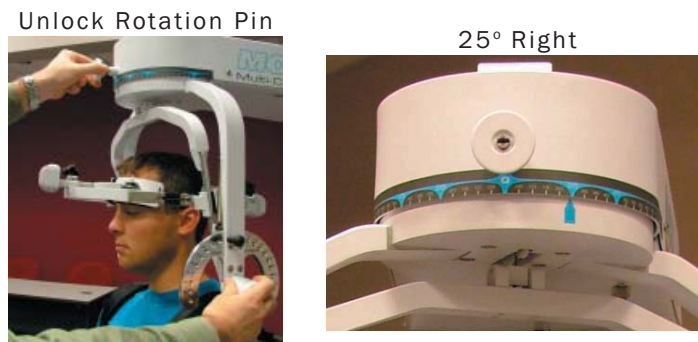

Figure 6-55. Halo Rotation of 25°
Step 12. While holding onto the side of the halo, unlock the rotation pin, which is located at the top middle of the halo. If you're testing the patient's left side, rotate the halo 25 degrees right and then lock the rotation pin. Rotate the halo 25 degrees to the left to test the patient's right side (Figure 6-55).